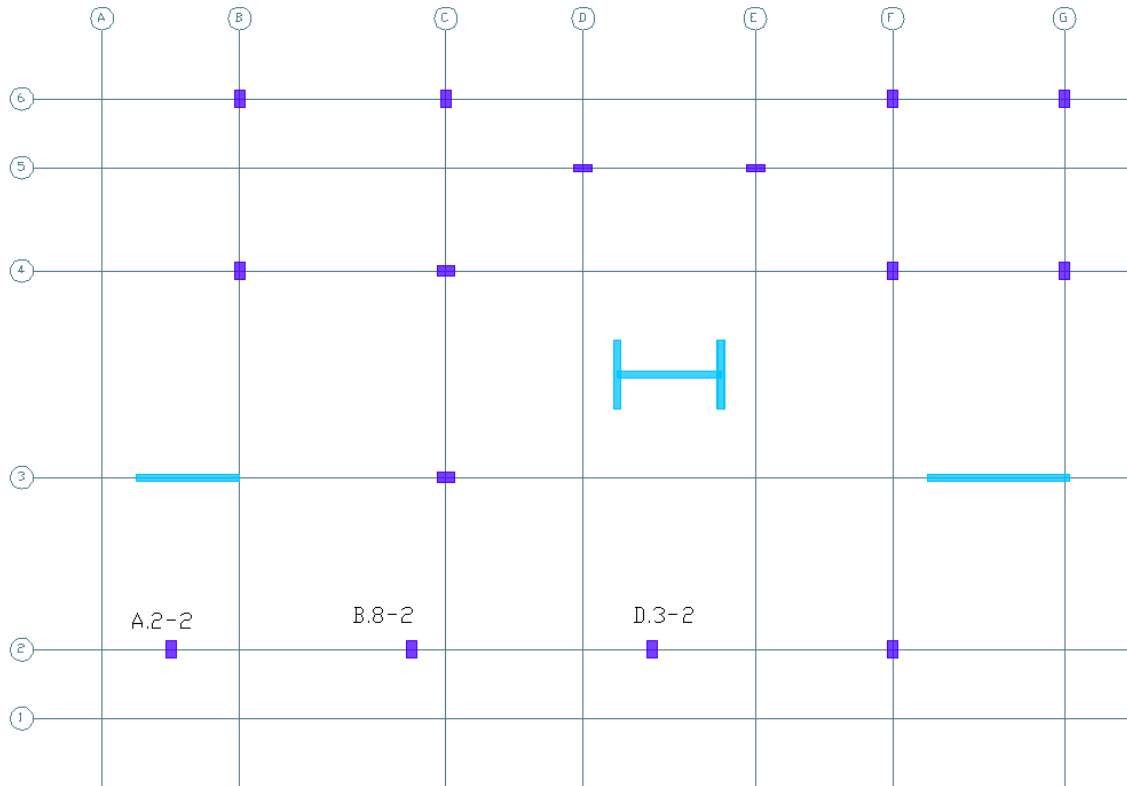

Figure 16-2
- **FIGURE 16-2** shows the grid layout with walls and columns. The column labels will be changed from the default values to the Grid location. Note there are 3 columns located off of the main grid. These are A.2-2, B.8-2 and D.3-2.